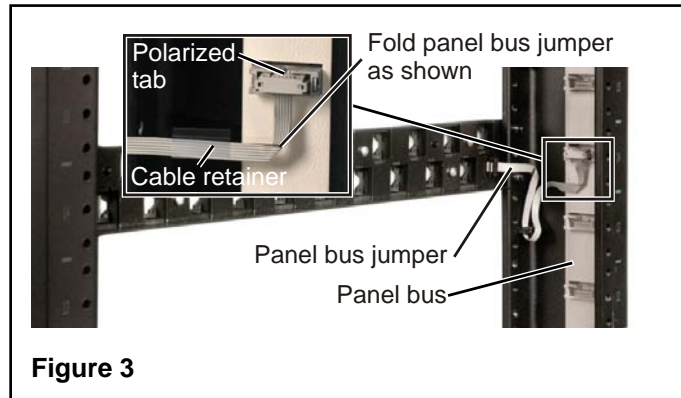

Figure 3
- Connect the panel bus connector on each jumper to the nearest connector on the panel bus, folding the jumper as shown (Figure 3). Press the cable retainers against the rack.